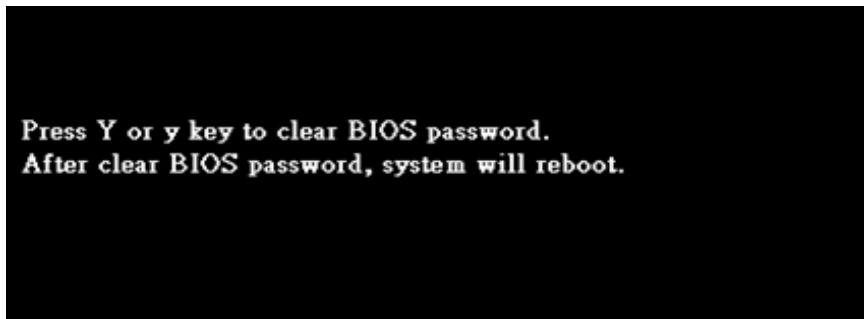

Figure 2-23. Clear BIOS Password
1. Execute < **MN.bat** > to update SMBIOS Type 1 Manufacturer Name(Figure 2-23).